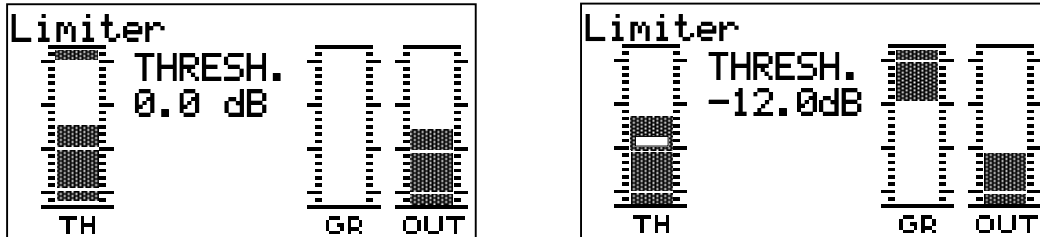

Fig. 24. Limiter display (left) and Limiter Threshold while editing (right)
- GR (Gain Reduction): This bar shows when the limiter is active (the threshold value is being exceeded by the input level). The gain reduction level will display as an inverted VU bar (see Fig. 24, right).